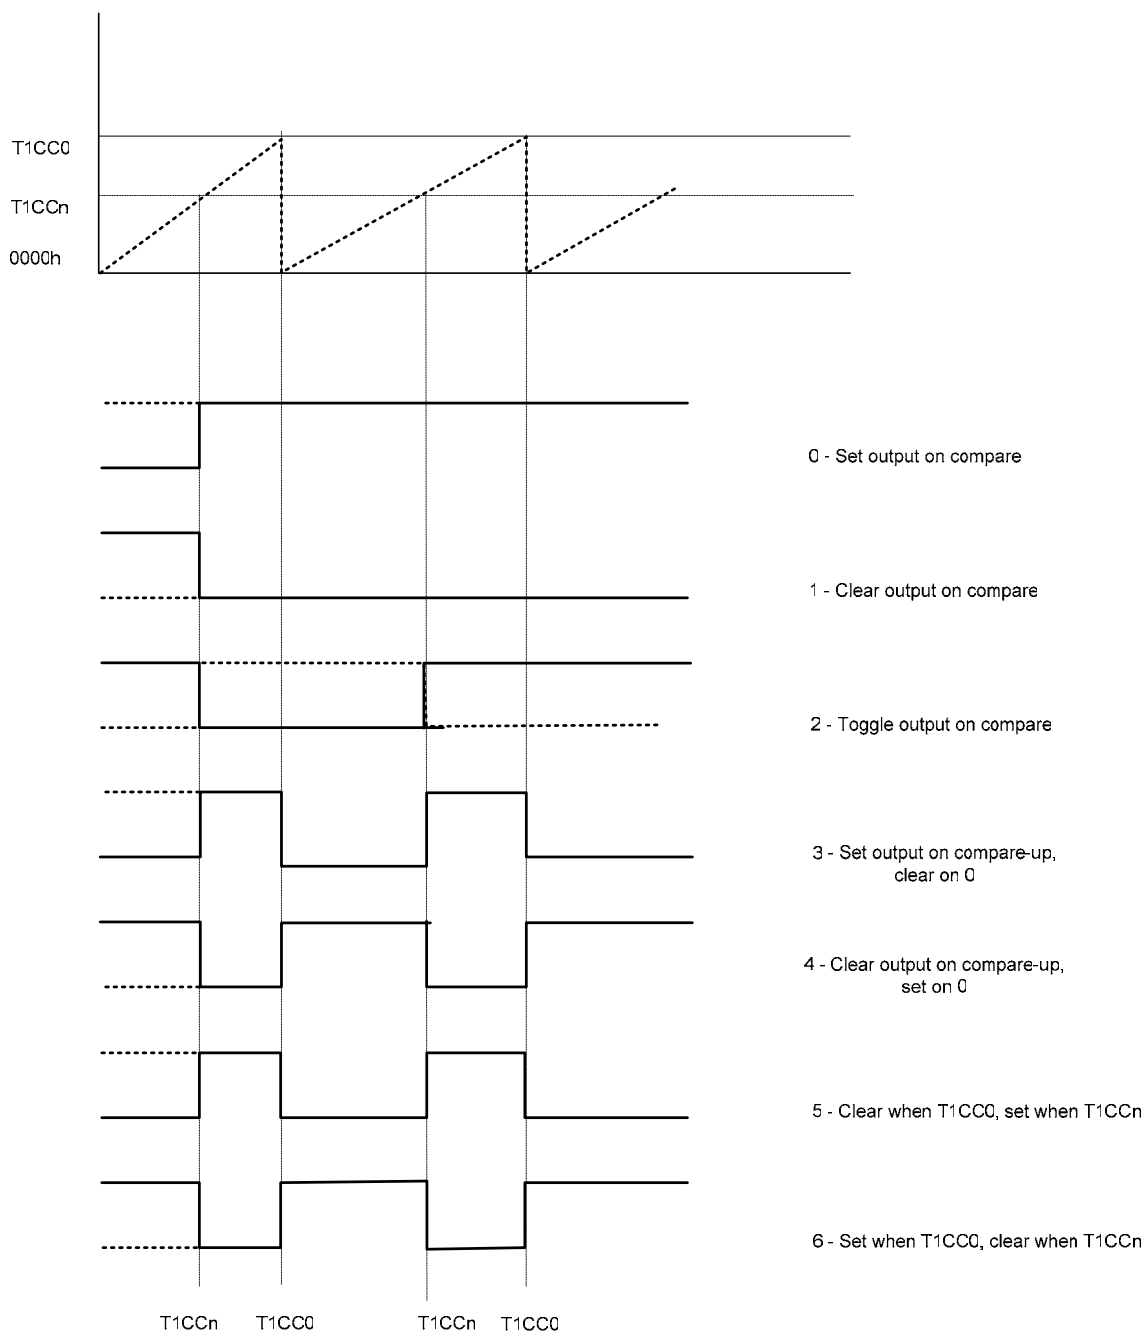

Figure 19: Output compare modes, timer modulo mode
**Edge-aligned** PWM output signals can be generated using the timer modulo mode and channels 1 and 2 in output compare mode 5 or 6 as shown in Figure 19. The period of the PWM signal is determined by the setting `T1CC0` and the duty cycle for the channel output is determined by `T1CCn`. The timer free-running mode may also be used. In this case `CLKCON.TICKSPD` and the prescaler divider value `T1CTL.DIV` set the period of the PWM signal. The polarity of the PWM signal is determined by whether output compare mode 5 or 6 is used. PWM output signals can also be generated using output compare modes 3 and 4 as shown in the same figure, or by using modulo mode as shown in Figure 19. Using output compare mode 3 and 4 is preferred for simple PWM.